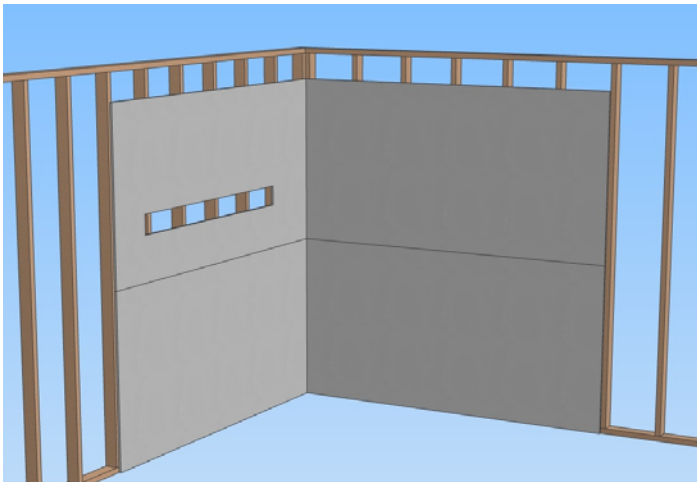

figure 1 - Opening in wall
1. Cut opening in wall 5-1/2" wide by proper length to fit the selected fixture. (to determine proper opening length, deduct 1" from the overall fixture length). *fig. 1*